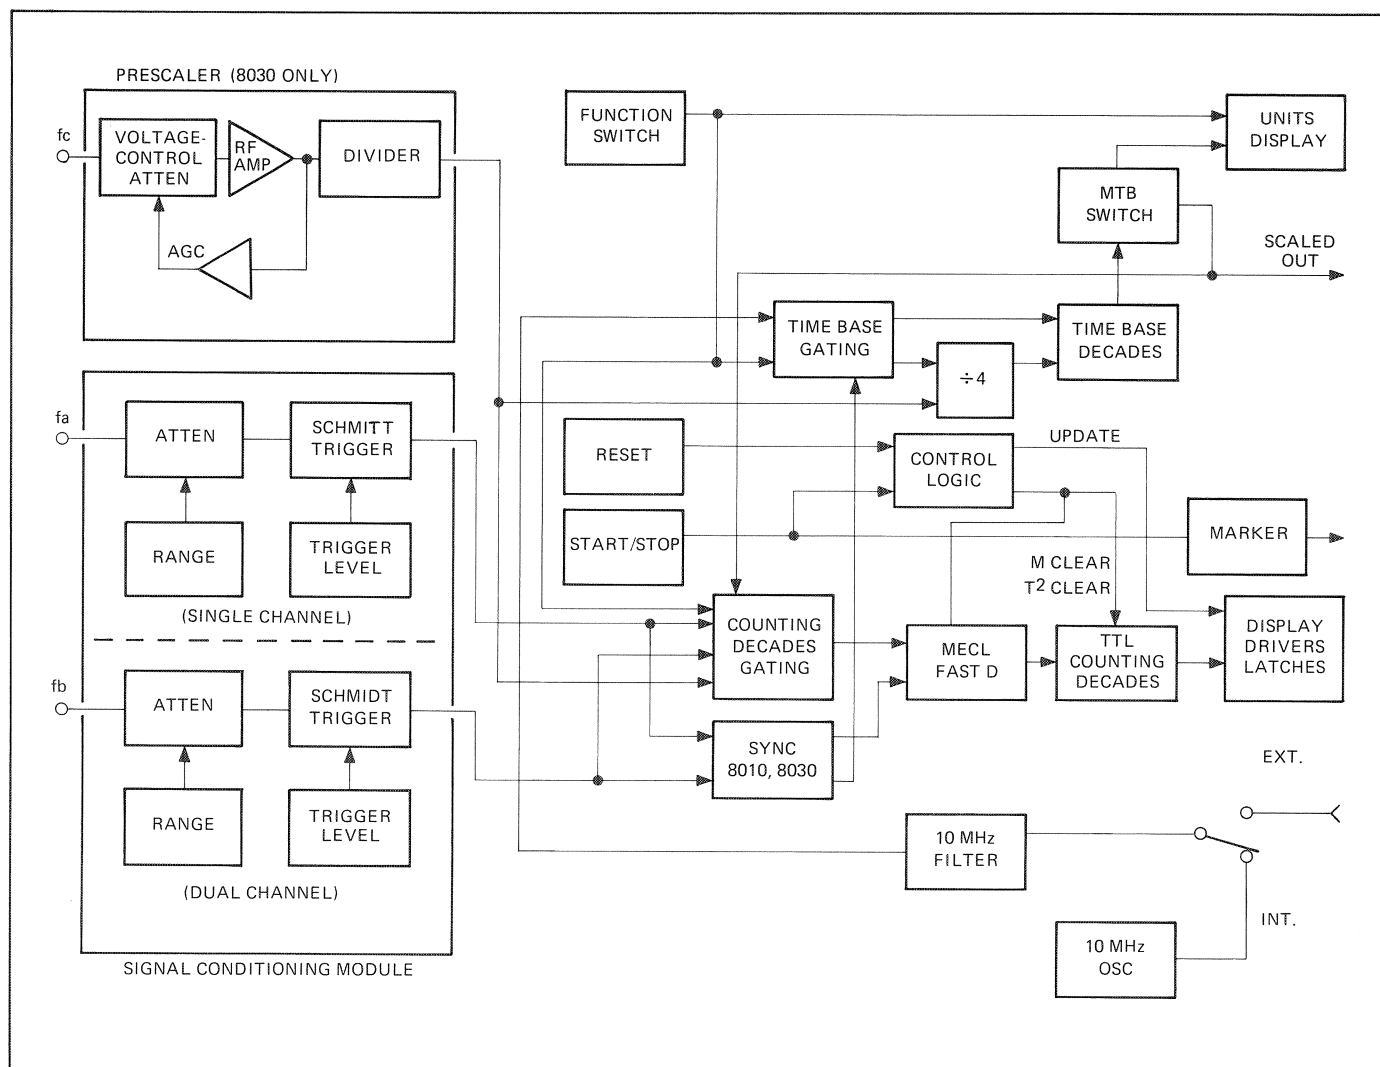

Figure 1.2 - Block Diagram
1.36 A basic block diagram of the instrument is shown in figure 1.2. Input channels A and B are identical through the attenuator and signal conditioning amplifiers. The input is routed through the BNC input connectors and through the AC/DC coupling switch to the attenuator. The attenuator has three positions: X1 range, X10 range, and X100 range. The attenuator output is applied to the signal conditioning amplifier through an overload circuit that protects the circuitry if an "overload" voltage is applied.
1.42 Signals to the Control Logic Section are generated by logic in the following blocks in figure 1.2: Multiplier/Timebase (M/TB) Decades and Start/Stop Logic. The M/TB Decades consist of eight TTL decade counters which, together with Start/Stop Logic, inputs from the Steering Logic, M/TB switches on front panel, and the function switch, control operation of the Control Logic. The circuits combine to perform the functions listed in table 1.3 for each operating mode. The M/TB Decades supply a scaled output to a rear panel connector in the Totalize mode. The output is $1/10N \times$ input frequency, where N is the Multiplier setting on the front panel.